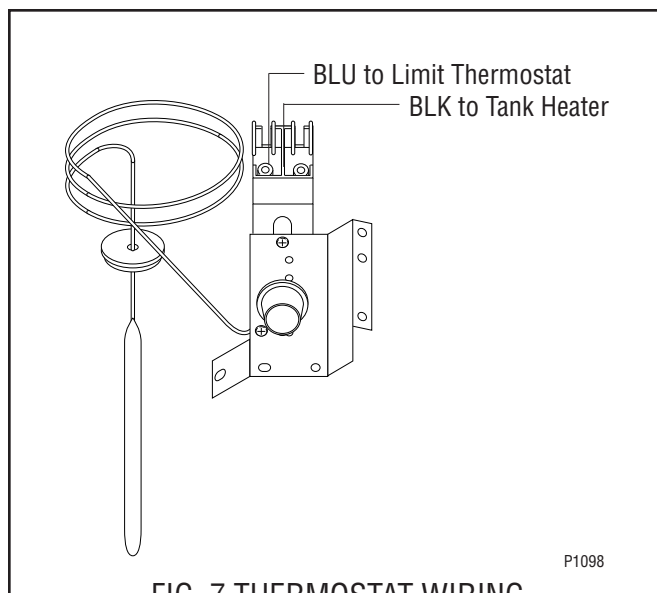

FIG. 7 THERMOSTAT WIRING
10. Refer to FIG. 7 when reconnecting the wires.